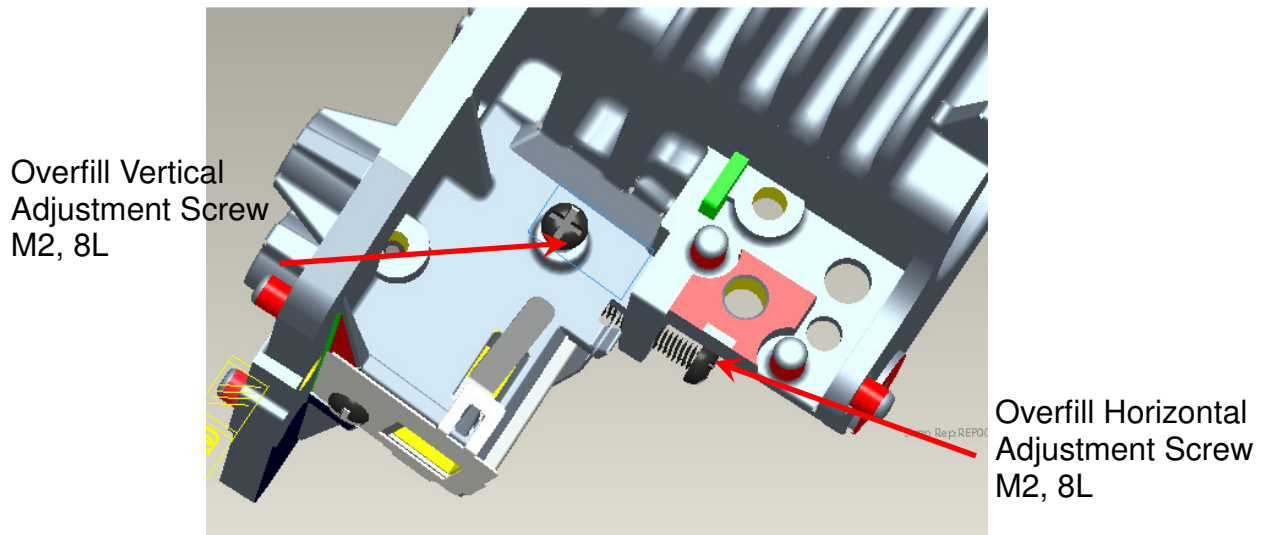

Fig. 1-8
- (7) Assemble two Overfill adjustment screws (M2, 8L) to HSG DMD (Fig. 1-8).
** Adjustment criteria refer to below item 1.2